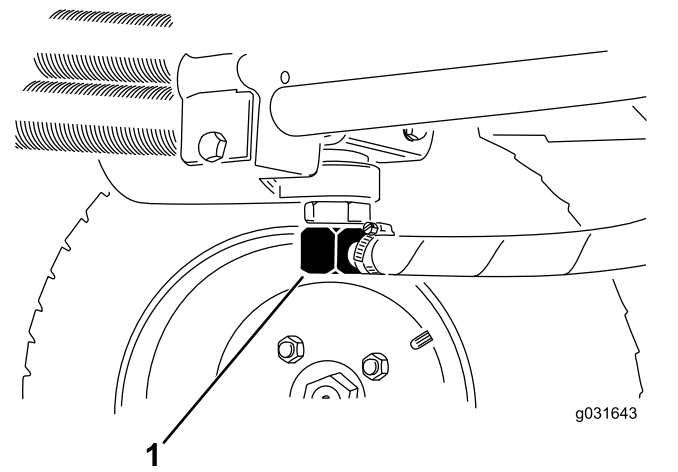

Figure 64
2. Disconnect the hydraulic line or remove the hydraulic filter and let the hydraulic fluid flow into a drain pan (Figure 66 and Figure 64).
3. Install the hydraulic line when the hydraulic fluid stops draining (Figure 64).